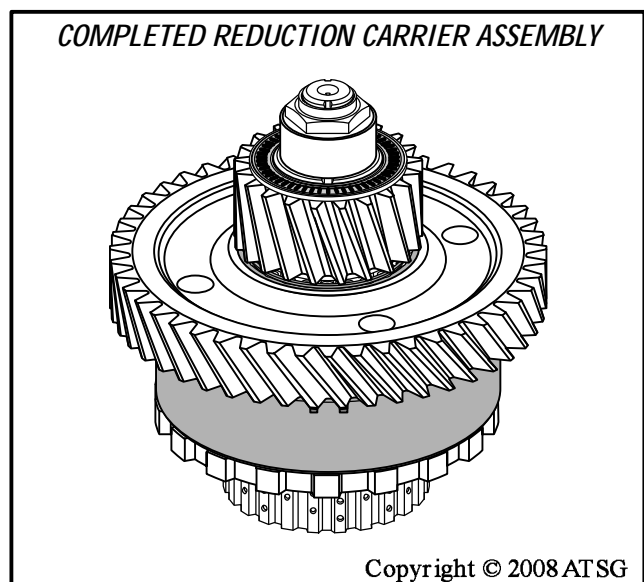

Figure 107
16. Set completed reduction carrier assembly aside for the final assembly process, as shown in Figure 107.